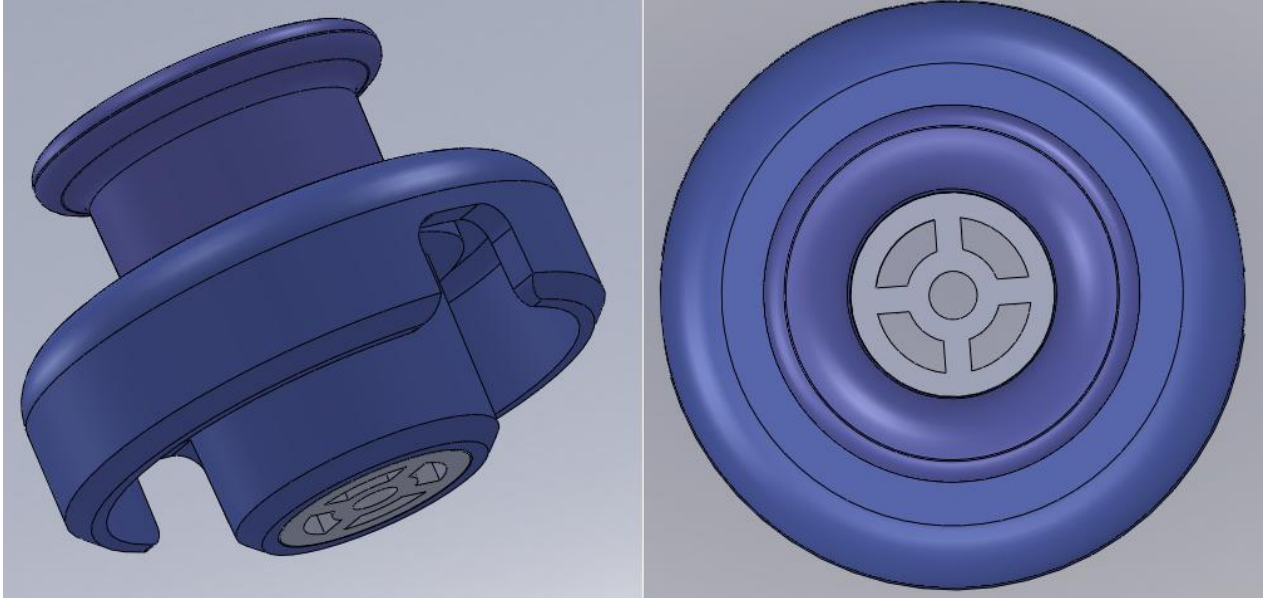

Figure 6
2. The Scalp-Mount Centering Tool has “cross-hairs” visible at the bottom of the tool when looking down the Tool’s center, as shown in Figure 6.